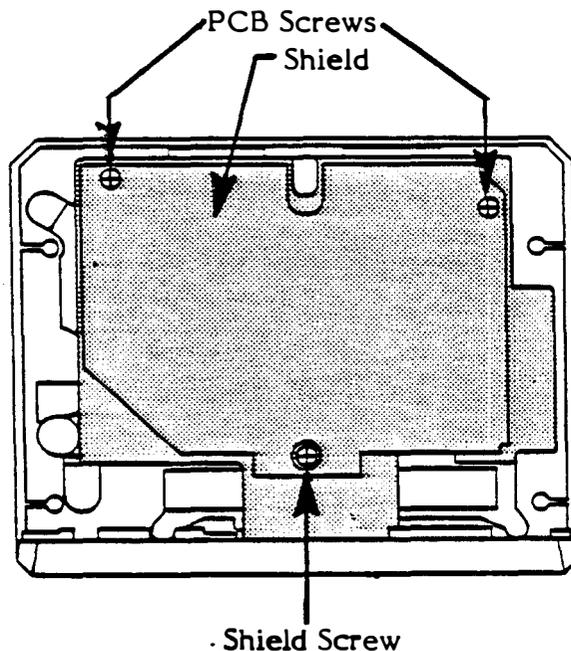

Figure 3-3. Accessing the 1010S PCB
- Remove the shield screw and the shield (see Figure 3-3).
- Remove the two screws holding the PCB in place (see Figure 3-3). Do not lift the PCB off yet. **Note: The longer screw with the larger thread bit must be returned to the plastic posthole.**